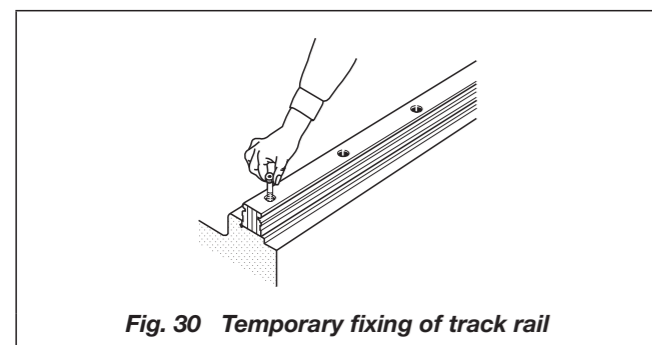

Fig. 30 Temporary fixing of track rail
- Correctly fit the reference mounting surface of Linear Way I and II track rail onto the mating reference mounting surface of the bed, and temporarily fix the track rail with mounting bolts. (See Fig. 30.)